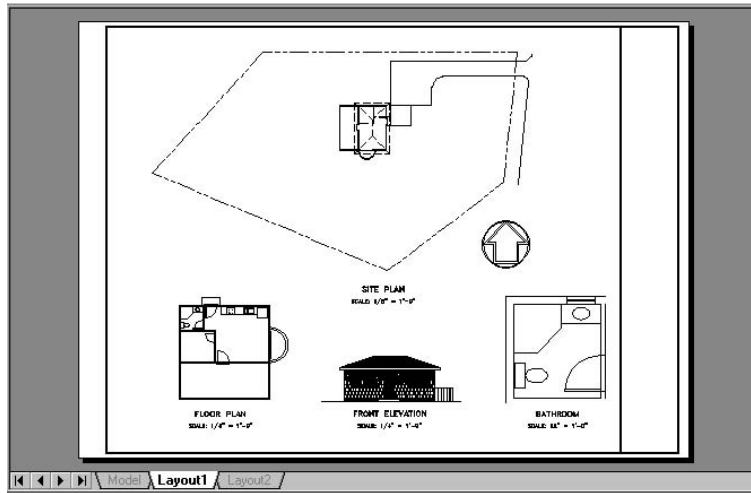

FIGURE 14.17: Preview of the site plot after readjusting the X value to 0.09
10. Right-click again and choose Exit. Change the X setting to 0.09. Click Preview again. Right-click and choose Zoom Window again. Zoom in to the corner and confirm that the border is now OK. Right-click and choose Zoom Original to return to the preview (see Figure 14.17).